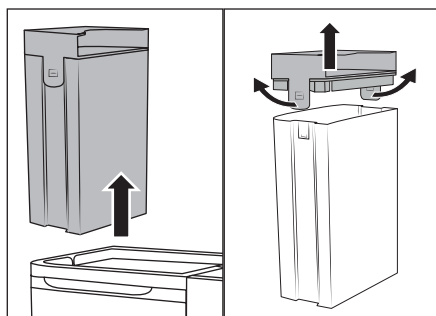

Fig. 5
- (1) Fill the fresh water tank ②  only with cold to warm tap water or distilled water. Do not use boiling water. (2) Never operate the appliance without water in the fresh water tank ② . (3) Use only standard commercial, non-foaming upholstery cleaning agents or **LIDL W5 vinegar-based cleaner**. Other cleaning agents can damage the appliance. We recommend adding three tablespoons of **LIDL W5 vinegar-based cleaner** to a full (1.7 litre) fresh water tank ② . If necessary, add additional vinegar-based cleaner in small steps until obtaining the desired result.
- ◆ Hold the fresh water tank ②  by the handle of the lid ① and pull it upwards out of the appliance (see Fig. 5).
- ◆ Pull the two retaining tabs slightly outwards and remove the lid ① (see Fig. 5).
- ◆ Fill the appliance with tap water or distilled water, and add upholstery cleaning agent or W5 vinegar-based cleaner, if needed. Please observe the processing instructions of the manufacturer. Make sure that the fresh water tank ②  is filled no higher than the MAX marking.
- ◆ Place the lid ① on the fresh water tank ②  and press it down until the two retaining tabs click into place.
- ◆ Hold the fresh water tank ②  by the handle of the lid ① and insert it into the appliance.